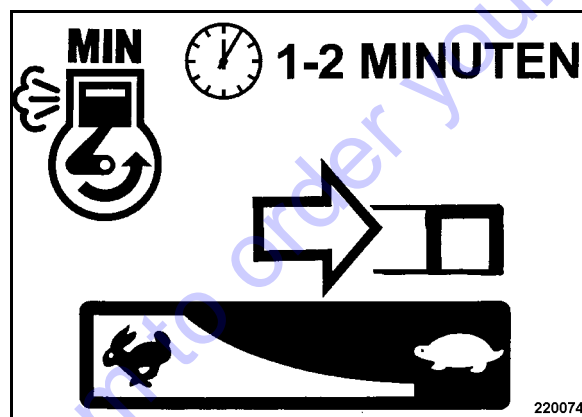

Fig. 28
- Move the throttle lever (Fig. 28) back to idle speed position.